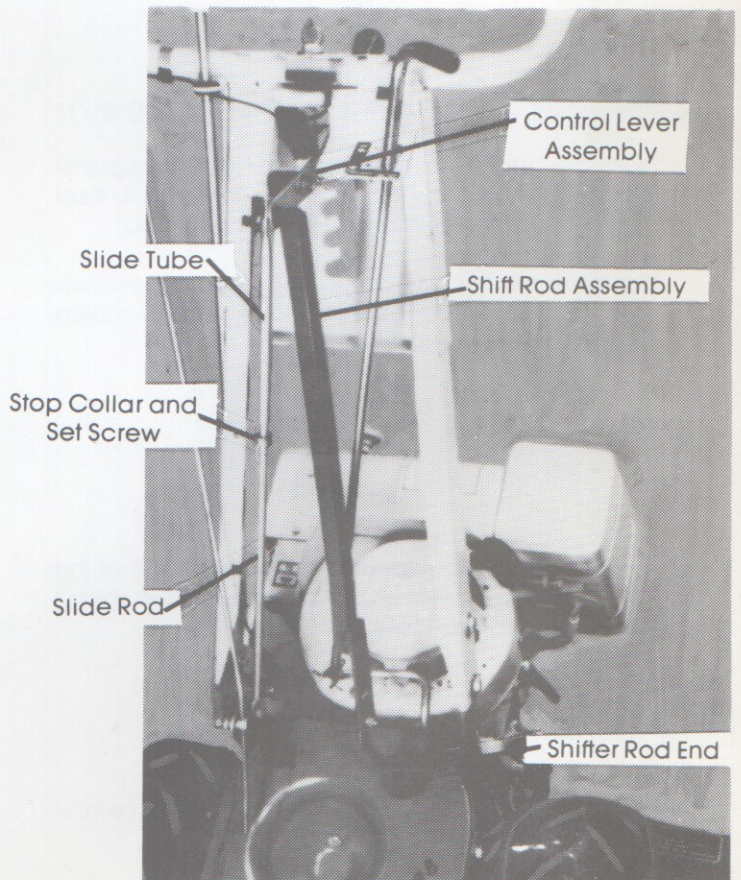

FIG. 2
6. Insert, from the right side, pin on shift rod assembly (supplied in kit) through control lever assembly. Then place eyelet of slide tube (supplied in kit) over protruding pin and secure with cotter pin. (Supplied in kit) (See Fig. 2)
8. Slide stop collar onto slide rod (supplied in kit) and insert slide rod into slide tube. Attach slide rod to bellcrank by inserting clutch link through slide rod then through bellcrank and secure linkage with cotter pin. (Supplied in kit) (See Fig. 2)